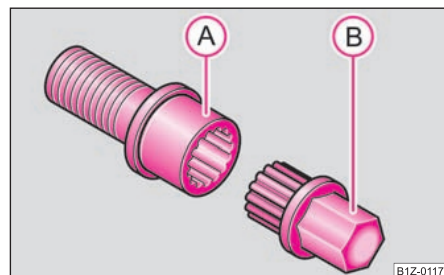

Fig. 171 Safety wheel bolt with adapter
- Insert the adapter (B) with its toothed side fully into the inner tothing of the safety wheel bolt (A) right down in such a way that only the outer hexagon is jutting out ⇒ fig. 171.
- Insert the wheel wrench fully onto the adapter (B).